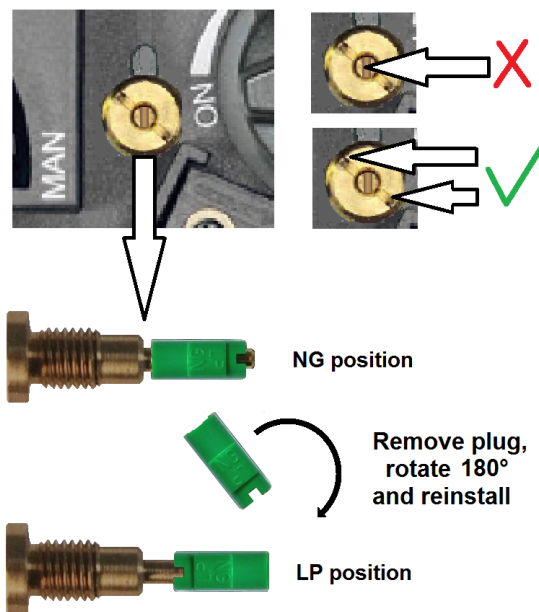

Figure 20 - GV60 LP Conversion Steps
1. The adjustment screw can be reached through a hole in the MANUAL knob (see Figure 20).
Convertible regulators are designed to deliver either of two fixed outlet pressures for Natural Gas (NG) or LP Gas. To change from one gas to the other, turn the outlet pressure screw housing (see Figure 20) counter-clockwise to remove. **Be careful not to engage the small flat slot on the screw itself but use the larger slot of the screw housing to remove the unit.** Unsnap and remove the plastic part, rotate it 180°, and then slide it back on the conversion plug until it snaps. Reinstall the conversion plug by screwing it clockwise until it bottoms out. The low pressure orifice must also be changed (see Figure 21-26, pages 25 -26).